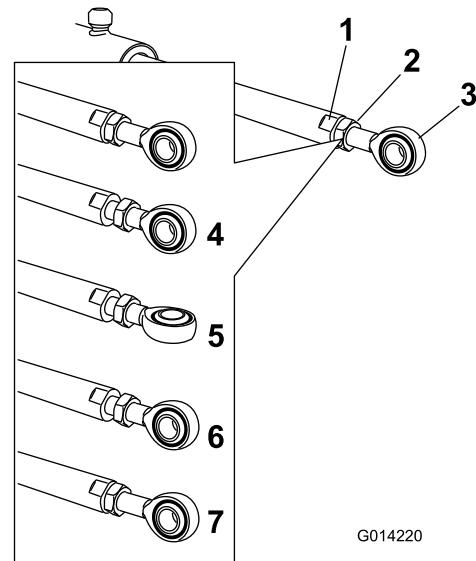

Figure 151
5. Hold the actuator rod at the flats of the rod using a wrench, then loosen the jam nut (Figure 151).
6. Turn the rod end in the actuator rod to shorten or lengthen the extended actuator to the desired position (Figure 151).